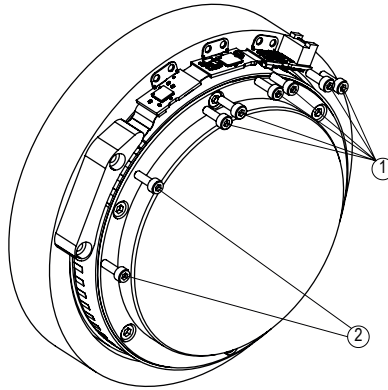

Fig. 3: Mounting MSAC200
- ▶ When designing the system integration, the complete dimensions of the bore coordinates, joint diameters and screw-on surfaces can be found in the technical drawings in the data sheet. Position tolerances for mounting holes are to be provided with $\varnothing 0.2$ mm (see Fig. 3).
3. Attach the electronic unit using the 3 holding plates (see Fig. 3).